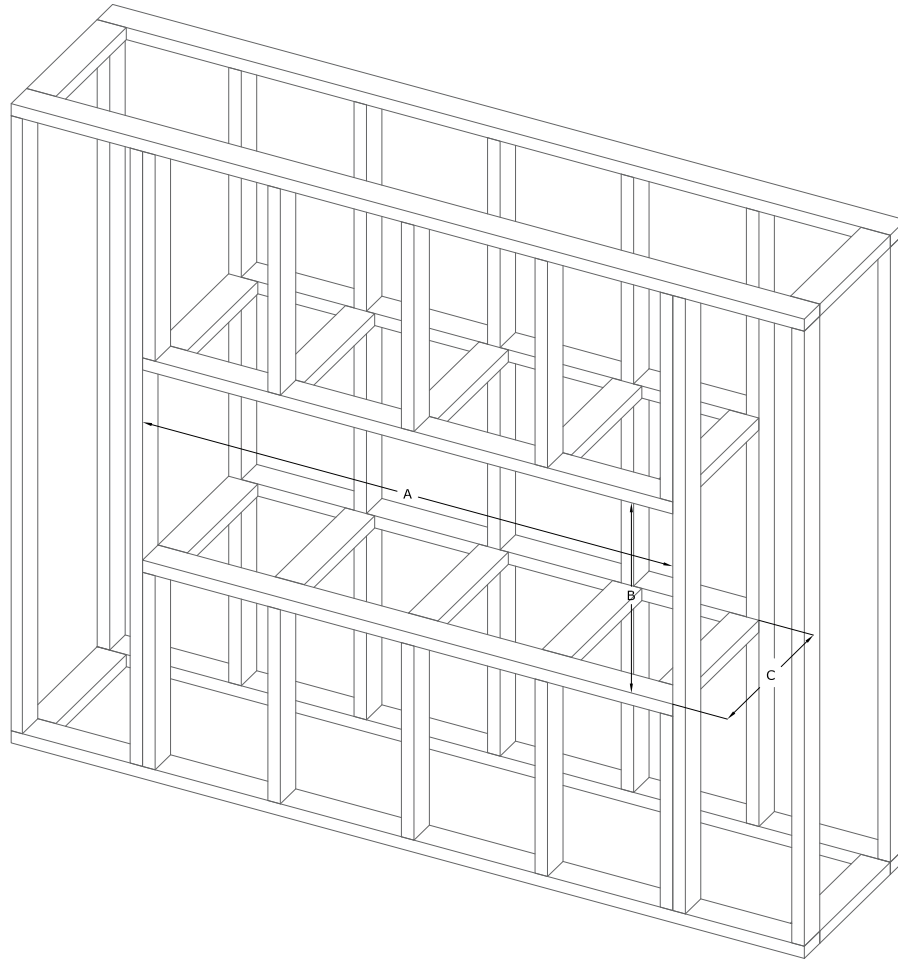
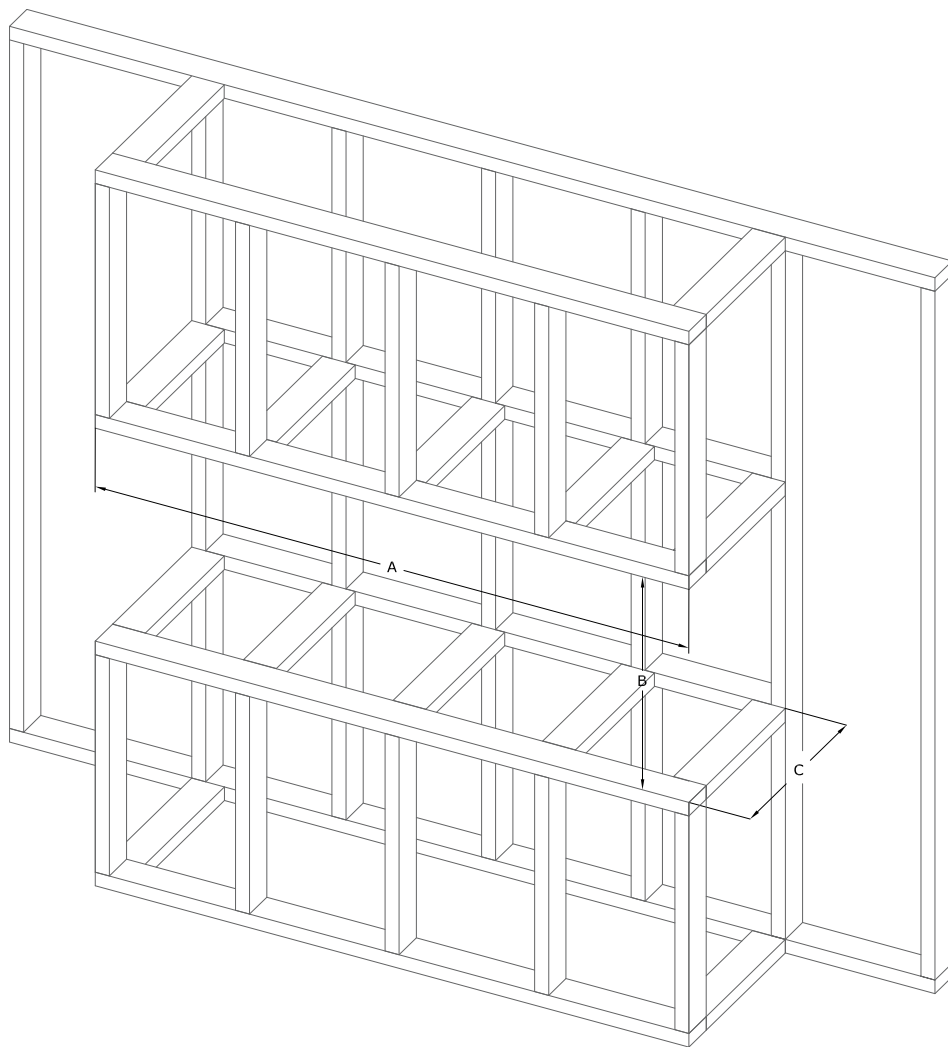

Figure 2.6 - Framed Opening - Standard Installation
Figure 2.8 - Framed Opening - 3-Sided (Bay) Installation
1. Create a rough opening specific to your type of installation (Single Sided Installation, Corner Installation, 3-Sided Pier Installation) See Figure 2.6 thru Figure 2.8 for the dimensions.